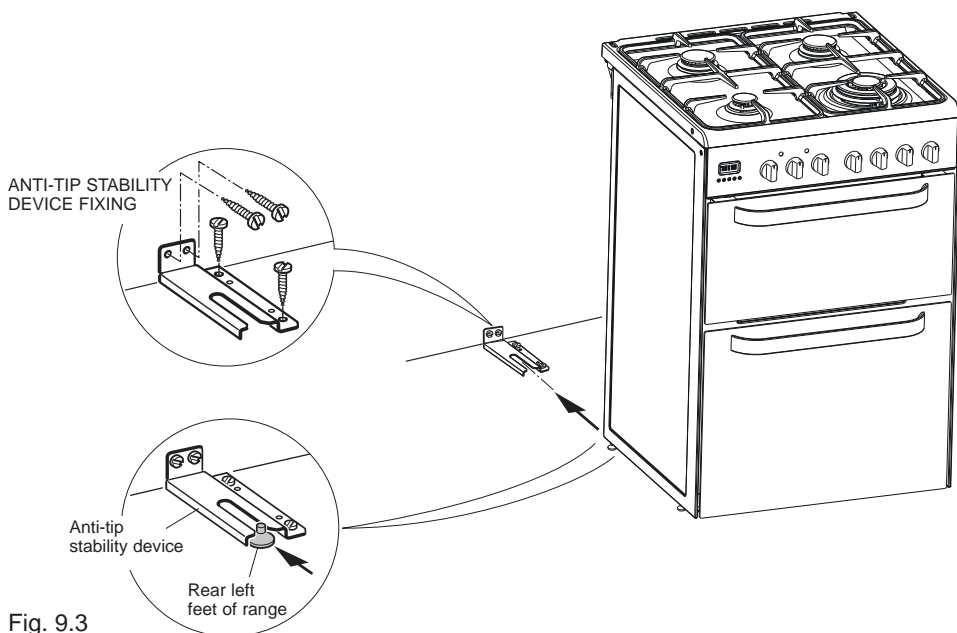

Fig. 9.3
1. After you have located where the cooker is to be positioned, mark on the wall and on the floor the place where the four screws of the anti-tilt bracket have to be fitted. Please follow the indications given in fig. 9.3.
2. Drill four 8mm diameter holes for the fixing screws (two in the wall and two in the floor-see fig. 9.3) and insert the plastic plugs supplied.
3. Attach the anti-tilt bracket to the floor and rear wall using the four screws supplied, as shown in fig. 9.3.
4. After attaching the anti-tilt bracket securely, slide the cooker into place. Ensure that the rear left foot slides under the bracket, as shown in fig. 9.3.